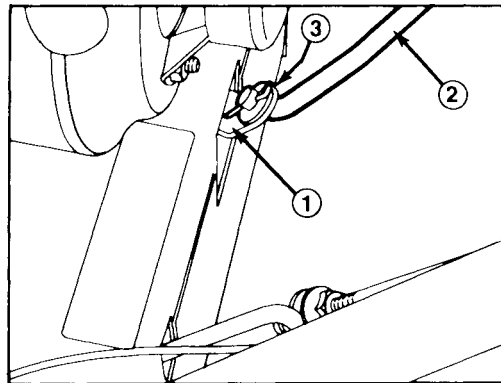

Figure 8
1. Pull speed selector arm to the fully "out" position (Fig. 8) and move speed selector on escutcheon plate to the R (REVERSE) position to ease assembly.
2. Install speed selector rod into selector arm, add one flat washer on the selector rod and secure with cotter pin (Fig. 8).